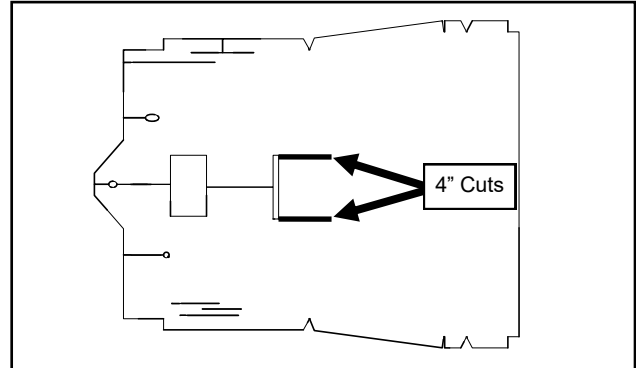

Fig. 19.1 (TLB Seat Alteration)
- 19.1 If installing the underseat filler with the TLB seat, cut two 4" long slits as shown in Figure 19.1. The flaps will then go up the side of the seat rather than underneath.